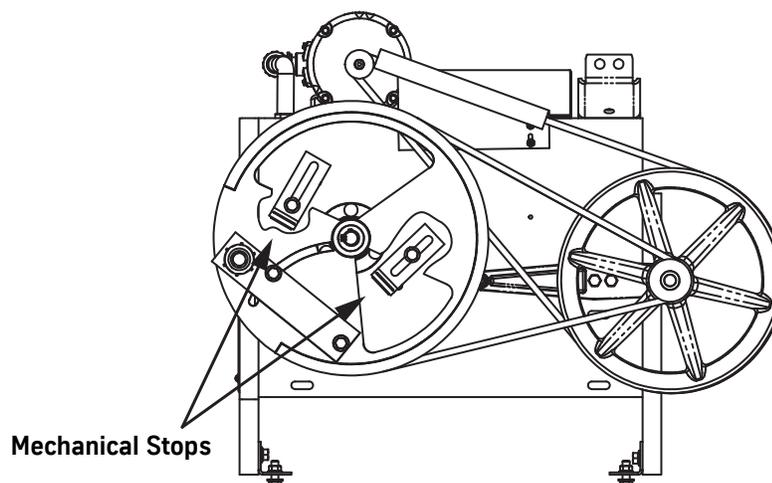

Figure 1 - Drive Sheave Mechanical Stops
4. Loosen the bolts holding the mechanical stops. See Figure 1.